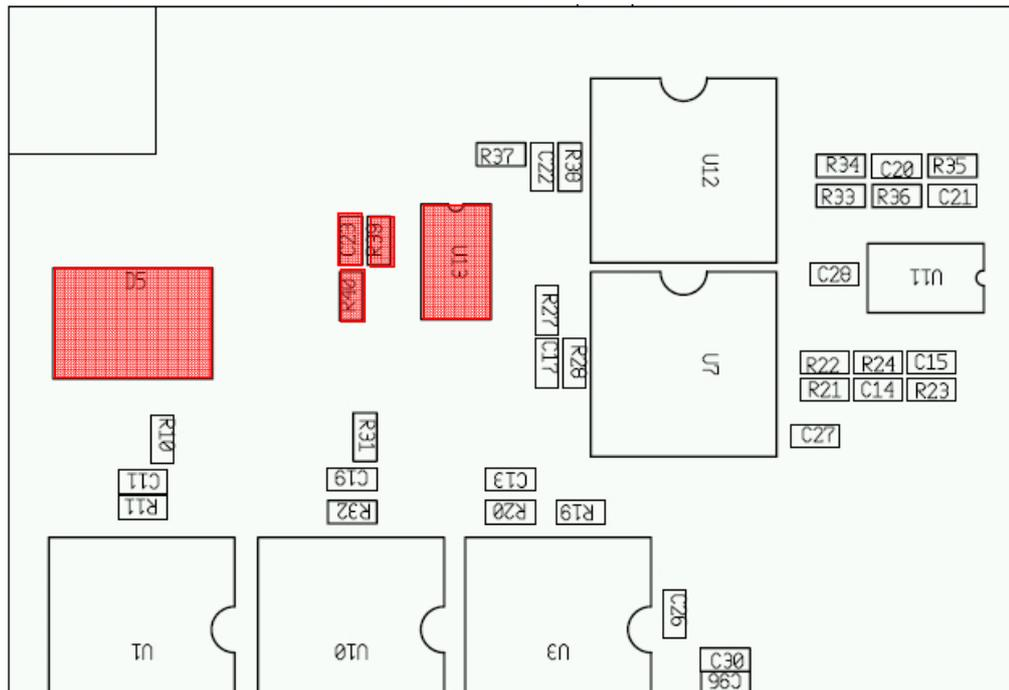

Fig.6. Unsoldered components from bottom side ELMB_MBv6.5 related to point 3-e.
- (e) Unsolder opamp U13, resistor R39, R40, and capacitor C23. Unsolder also Transil D5, see Fig.6.